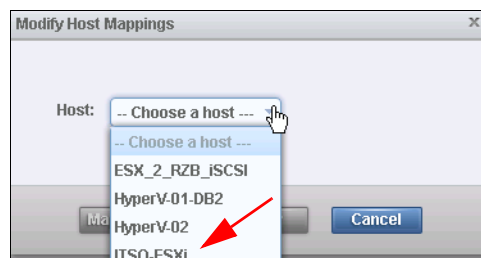

Figure 5-20 Choose a host
1. Select a host to which the new volume should be attached (Figure 5-20).